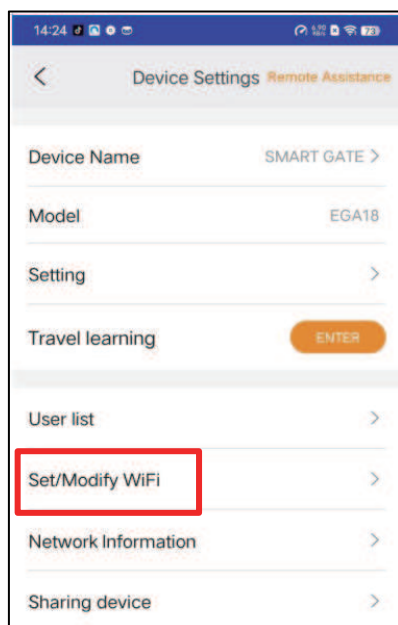

Fig 7
Step 1. Select the device, press the “ ” on the top right corner. Click the “ Set/Modify WiFi”. (Fig 7)